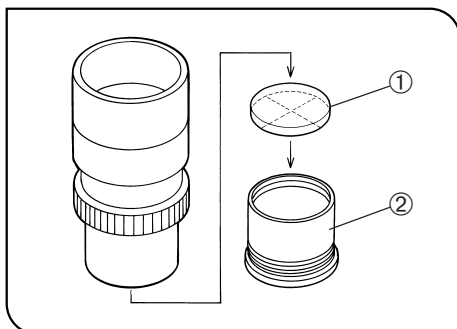

Fig. 12
**4 Using Eyepiece Micrometer Disks (Fig. 12)**
Following Fig. 12, remove the micrometer mounting frame ② from the eyepiece and place a micrometer disk ① into the mounting frame. Re-attach the micrometer mounting frame in the original position.